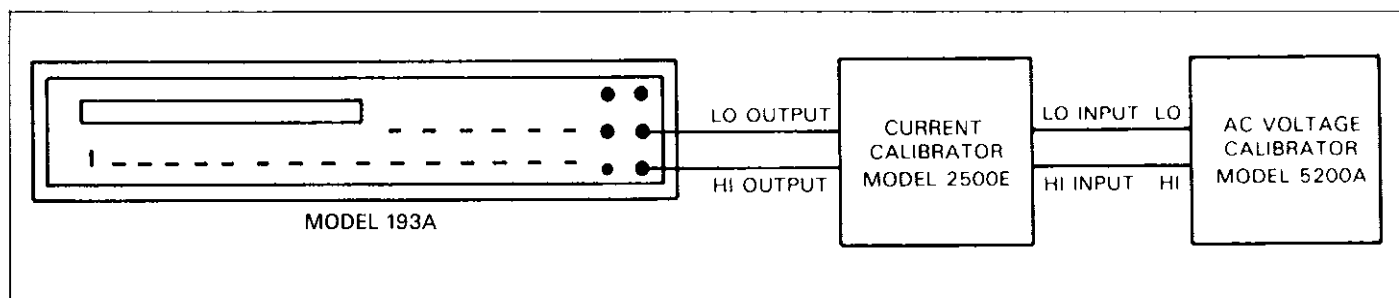

Figure 6-10. TRMS AC Current Calibration Configuration
2. Connect the AC current calibrator to the instrument as shown in Figure 6-10.